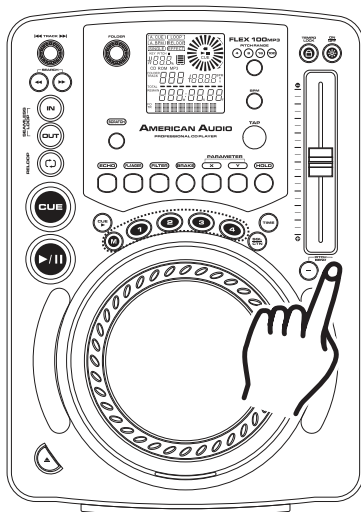

Figure 31
The (+) PITCH BEND BUTTON (11) will increase track playback speed and the (-) PITCH BEND BUTTON (11) will decrease track playback speed. The extent to which the speed changes is proportionate to the amount of time the button is pressed. For example, if the (+) PITCH BEND BUTTON (11) is held down continuously as in figure 31, the disc speed will increase and will continue to increase until it reaches a maximum of 100% speed gain. When you release the (+) PITCH BEND BUTTON (11) the disc speed will automatically return to its previous set speed.